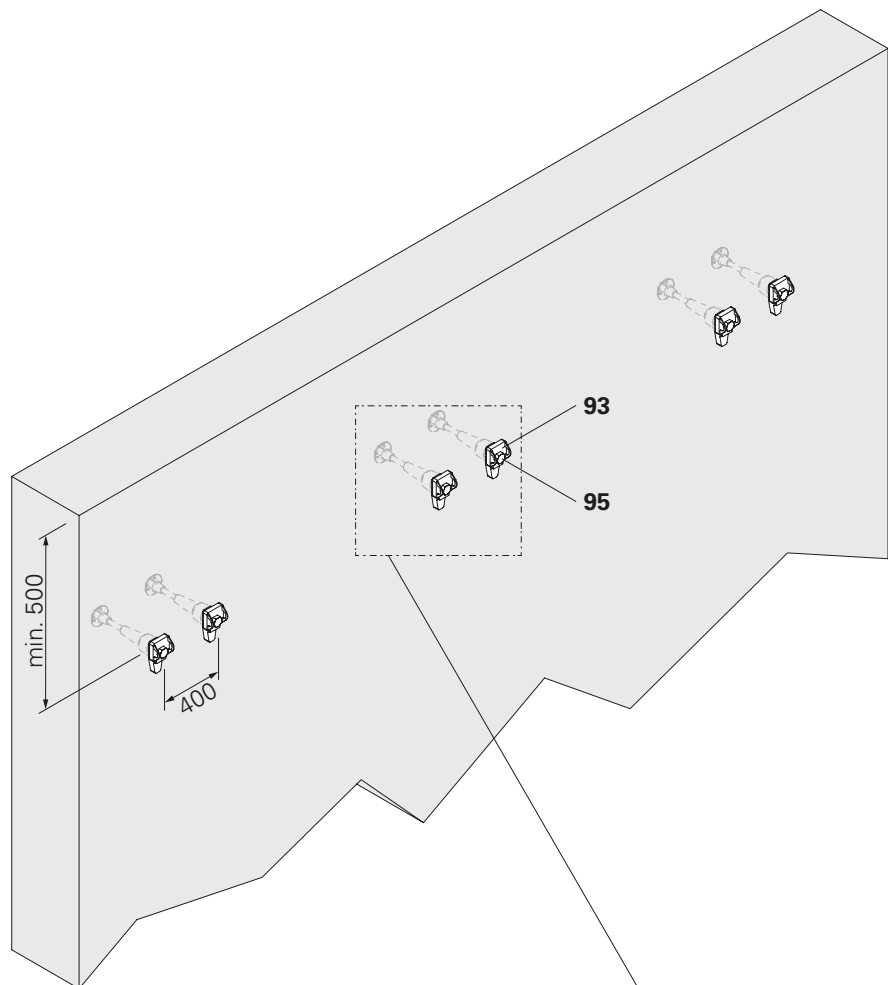

Fig. D2.02b
1. Screw 1x Anchor Sliding Piece-2 M36/12 (93) onto each Heavy-Duty Cone M36/DW 26 (94) using bolt ISO 4014 M36 x 160 (95). (Fig. D2.02b)